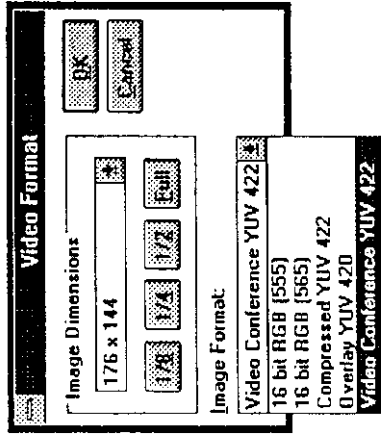

Figure 3-21.
2. SELECT different Image Formats by clicking on one of choices under Image format selections (see Figure 3-21). While all five formats allow image dimensions of up to full screen size, only video Conference YUV 422" image format allows full screen size of 704x576.